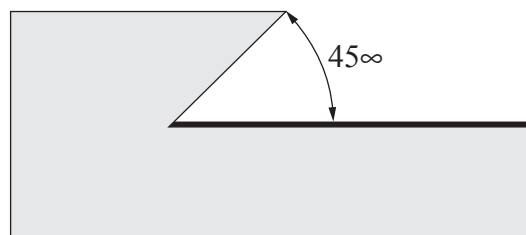

Figure 4
- (A) 0.01 mm
- (B) 0.05 mm
- (C) 0.50 mm
- (D) 5.00 mm
- (A) Eliminate the hazard.
- (B) Change the way the job is done.
- (C) Keep the hazard and people apart.
- (D) Supply personal protective equipment.
- 9 A metal component requiring filing is shown in Figure 4.
Which tool would be used to file the metal surface indicated by the thick line in Figure 4?